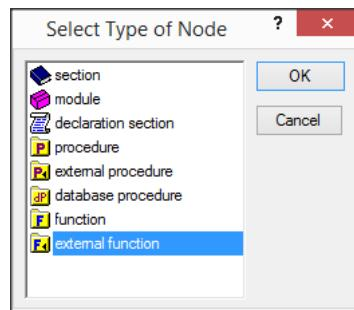

Figure 9.5: The **Select Node Type** dialog box
- ▶ select the external function  from the **Select Type of Node** dialog box (see Figure 9.5),